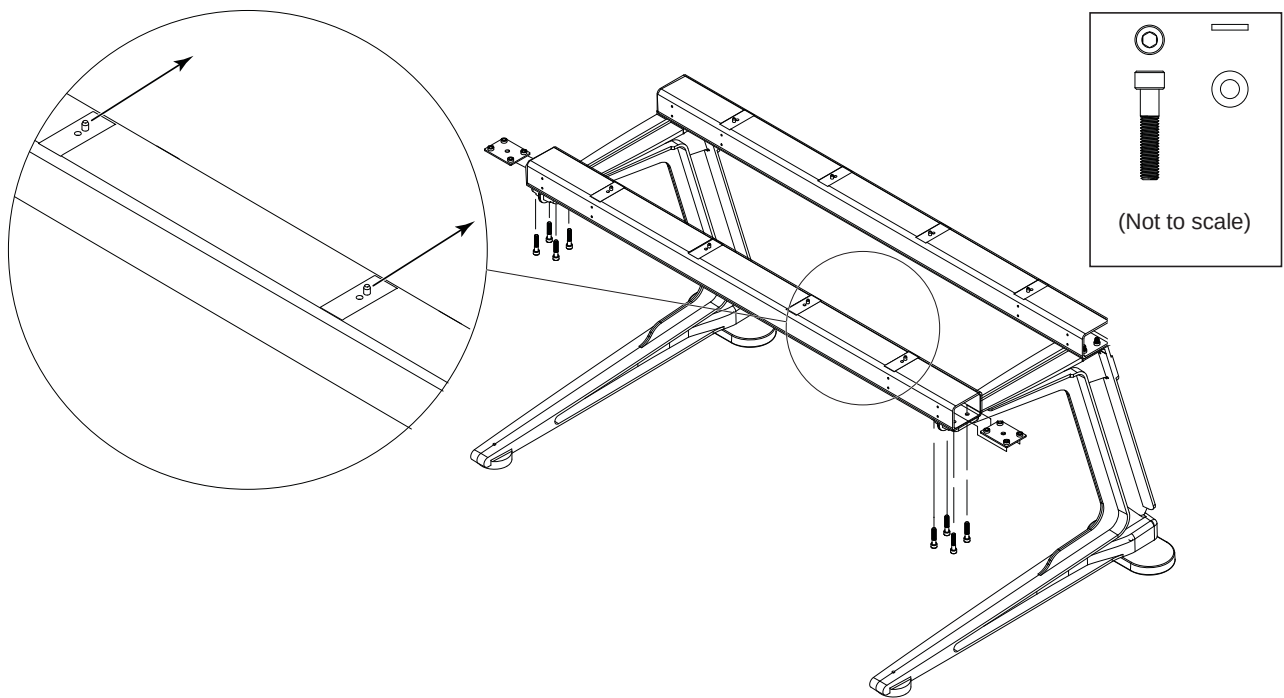

Figure 4. Orientation of the pins on the top of the front beam
- 2 Using four fasteners and washers (included) per mount, attach the Beam across the front of the Legs using two Beam Mounting Plates as shown in Figure 4. Do not tighten the fasteners.